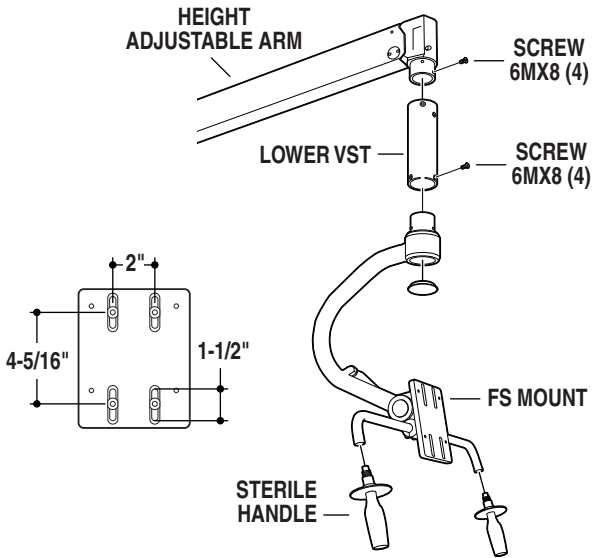

Figure 12.
a. Route all cabling or pullstring through arm assembly and install the Lower VST on the Height Adjustable Arm and secure with (4) M6 x 8 screws.
b. Install the Flatscreen Mount into the Lower VST and secure with (4) M6 x 8 screws. See figure 12.